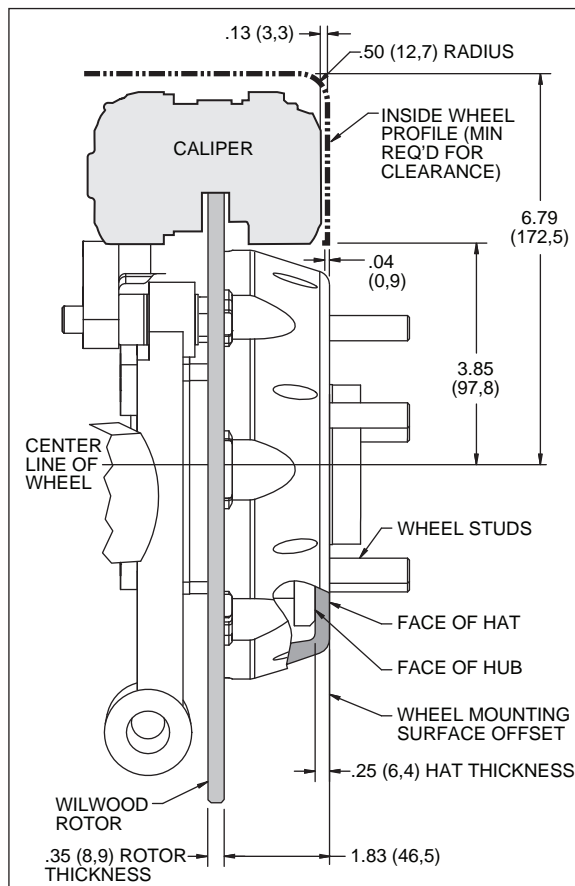

Figure 2. Wheel Clearance Diagram
- Verify your wheel clearance using figure 2.